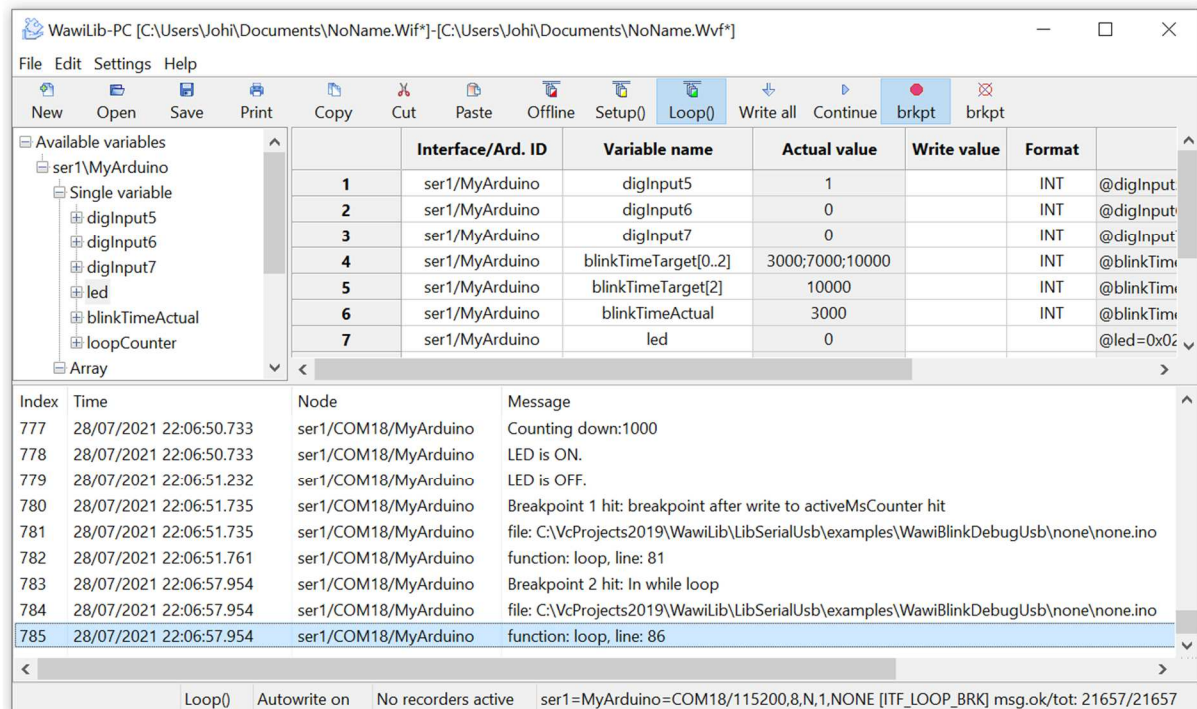

Fig 3.22. Both breakpoints are used after correcting the code.
- ⇒ In Fig. 3.22. You can see that both breakpoints are used. Bug is indeed corrected.